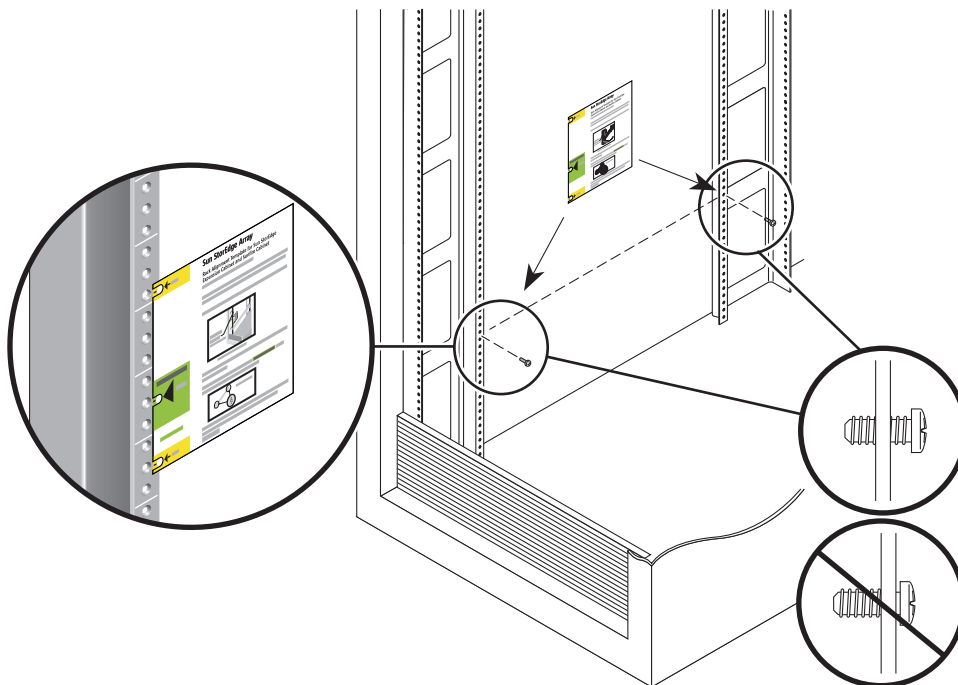

FIGURE 2-3 Inserting Mounting Hole Screws and Positioning the Rack Alignment Template
2. Insert four 10-32 screws (two per side) in the front and back mounting holes of the cabinet (FIGURE 2-3). Do not tighten at this time. You will hang the side rails on these screws.
3. Locate the proper mounting holes by using the rack alignment template for the Sun StorEdge Expansion and Sun Fire cabinet (FIGURE 2-3).